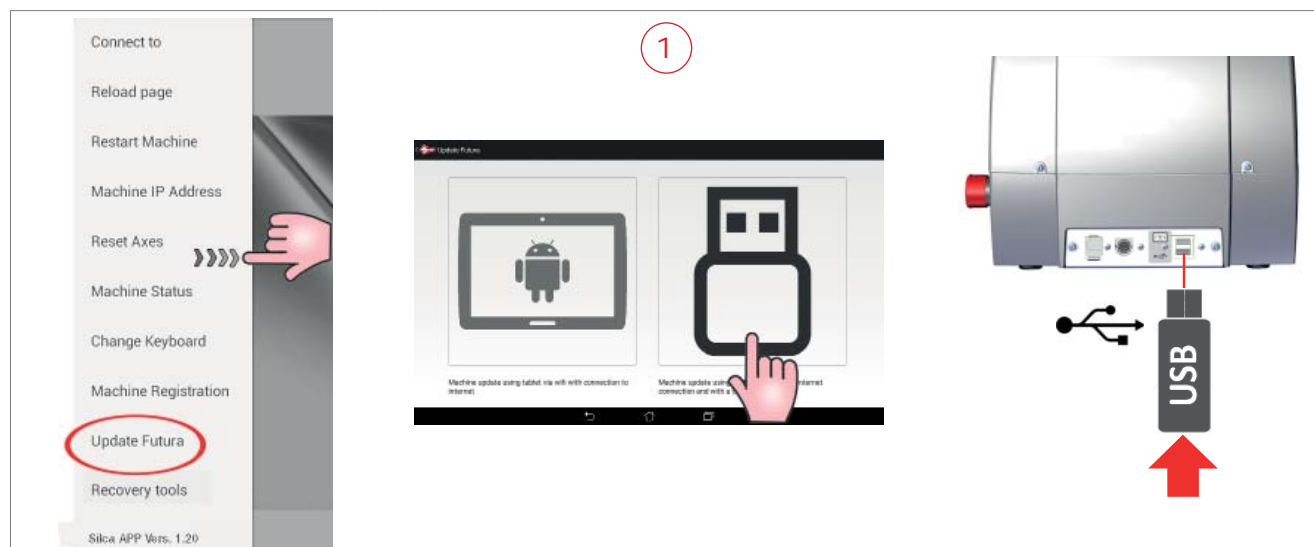

Fig. 11
- 1) Select “Machine update” from the drop-down menu and tap the USB PEN image (Fig. 11). Insert the USB PEN DRIVE into the machine and follow the instructions on the screen.